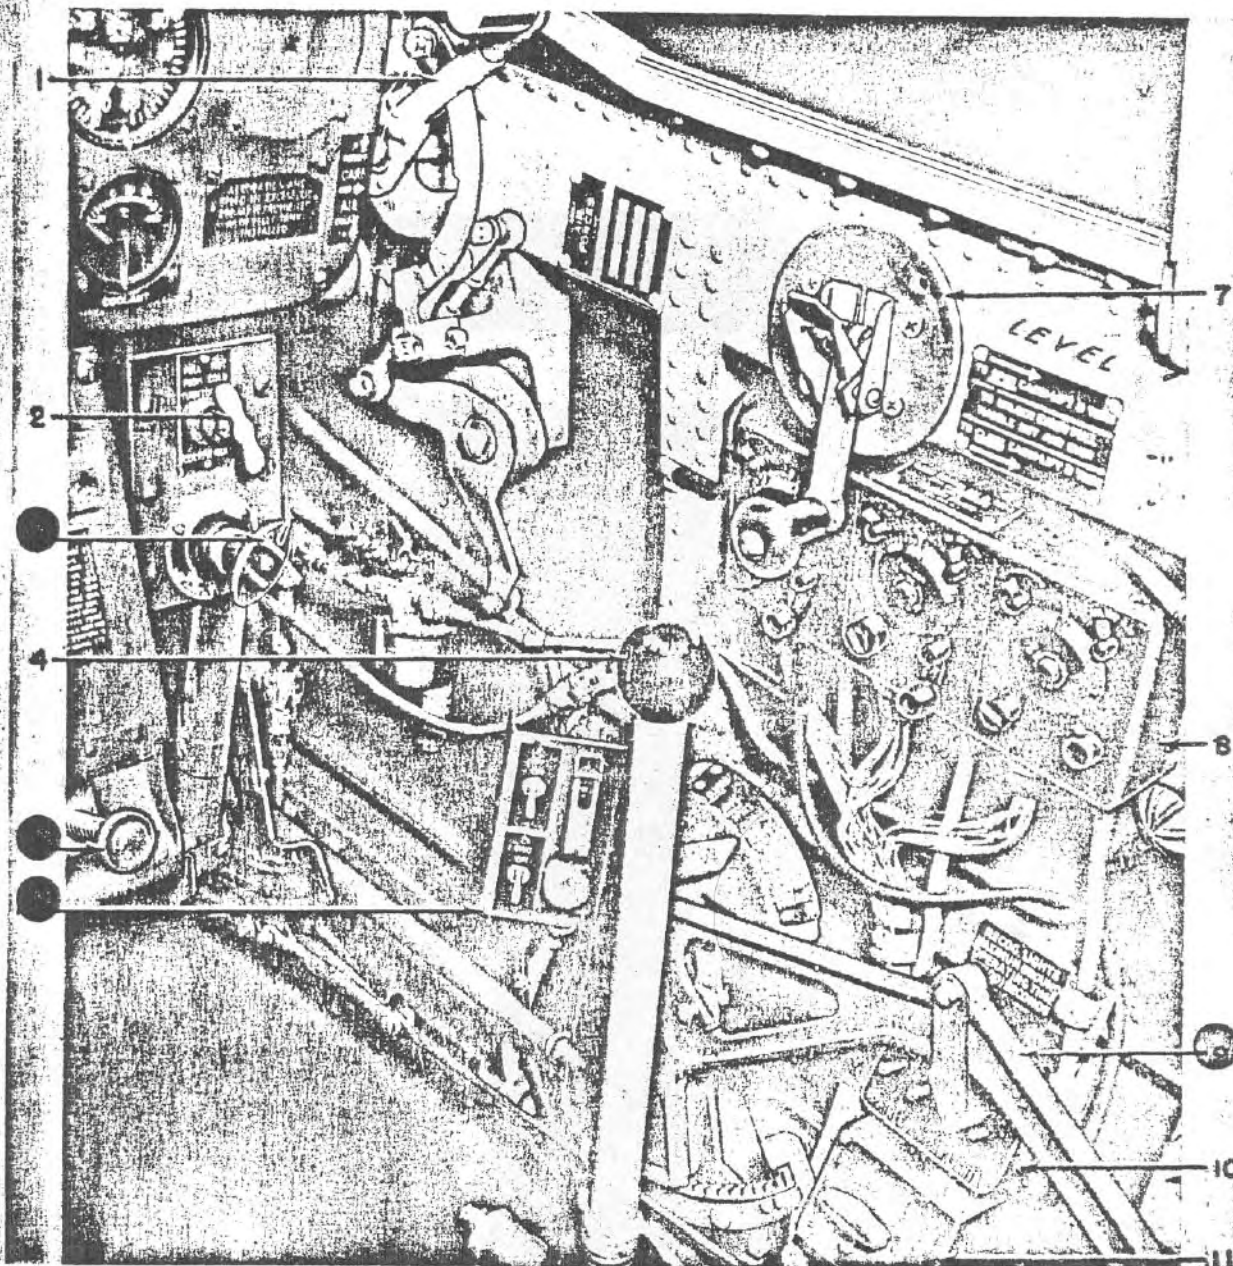

Figure 29—Cockpit—Right Side Front
(8) Test signal lights. The recognition light switches are found on a control box on the right wall of the cockpit. (See figure 29). They may be tested for signaling by switching in the down position, at the same time operating the code key. (Maximum ground operating time is 10 seconds.) The inter-aircraft signal light at the left of the pilot may now be tested by operating the signaling trigger.
d. Set the carburetor air control (figure 29) to "cold".